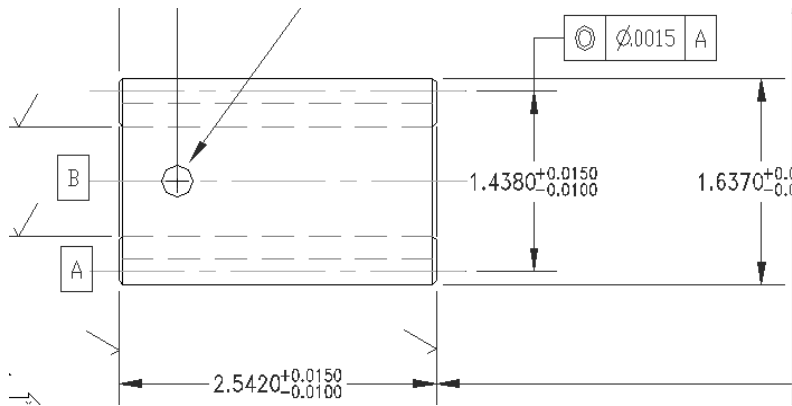

**Figure 15-30:** Deviation tolerances.
- ♦ **Deviation** tolerances can have different upper and lower amounts and are therefore shown after separate plus and minus signs, as shown in Figure 15-30. When you choose a deviation tolerance, the Upper Value and Lower Value text boxes become active.